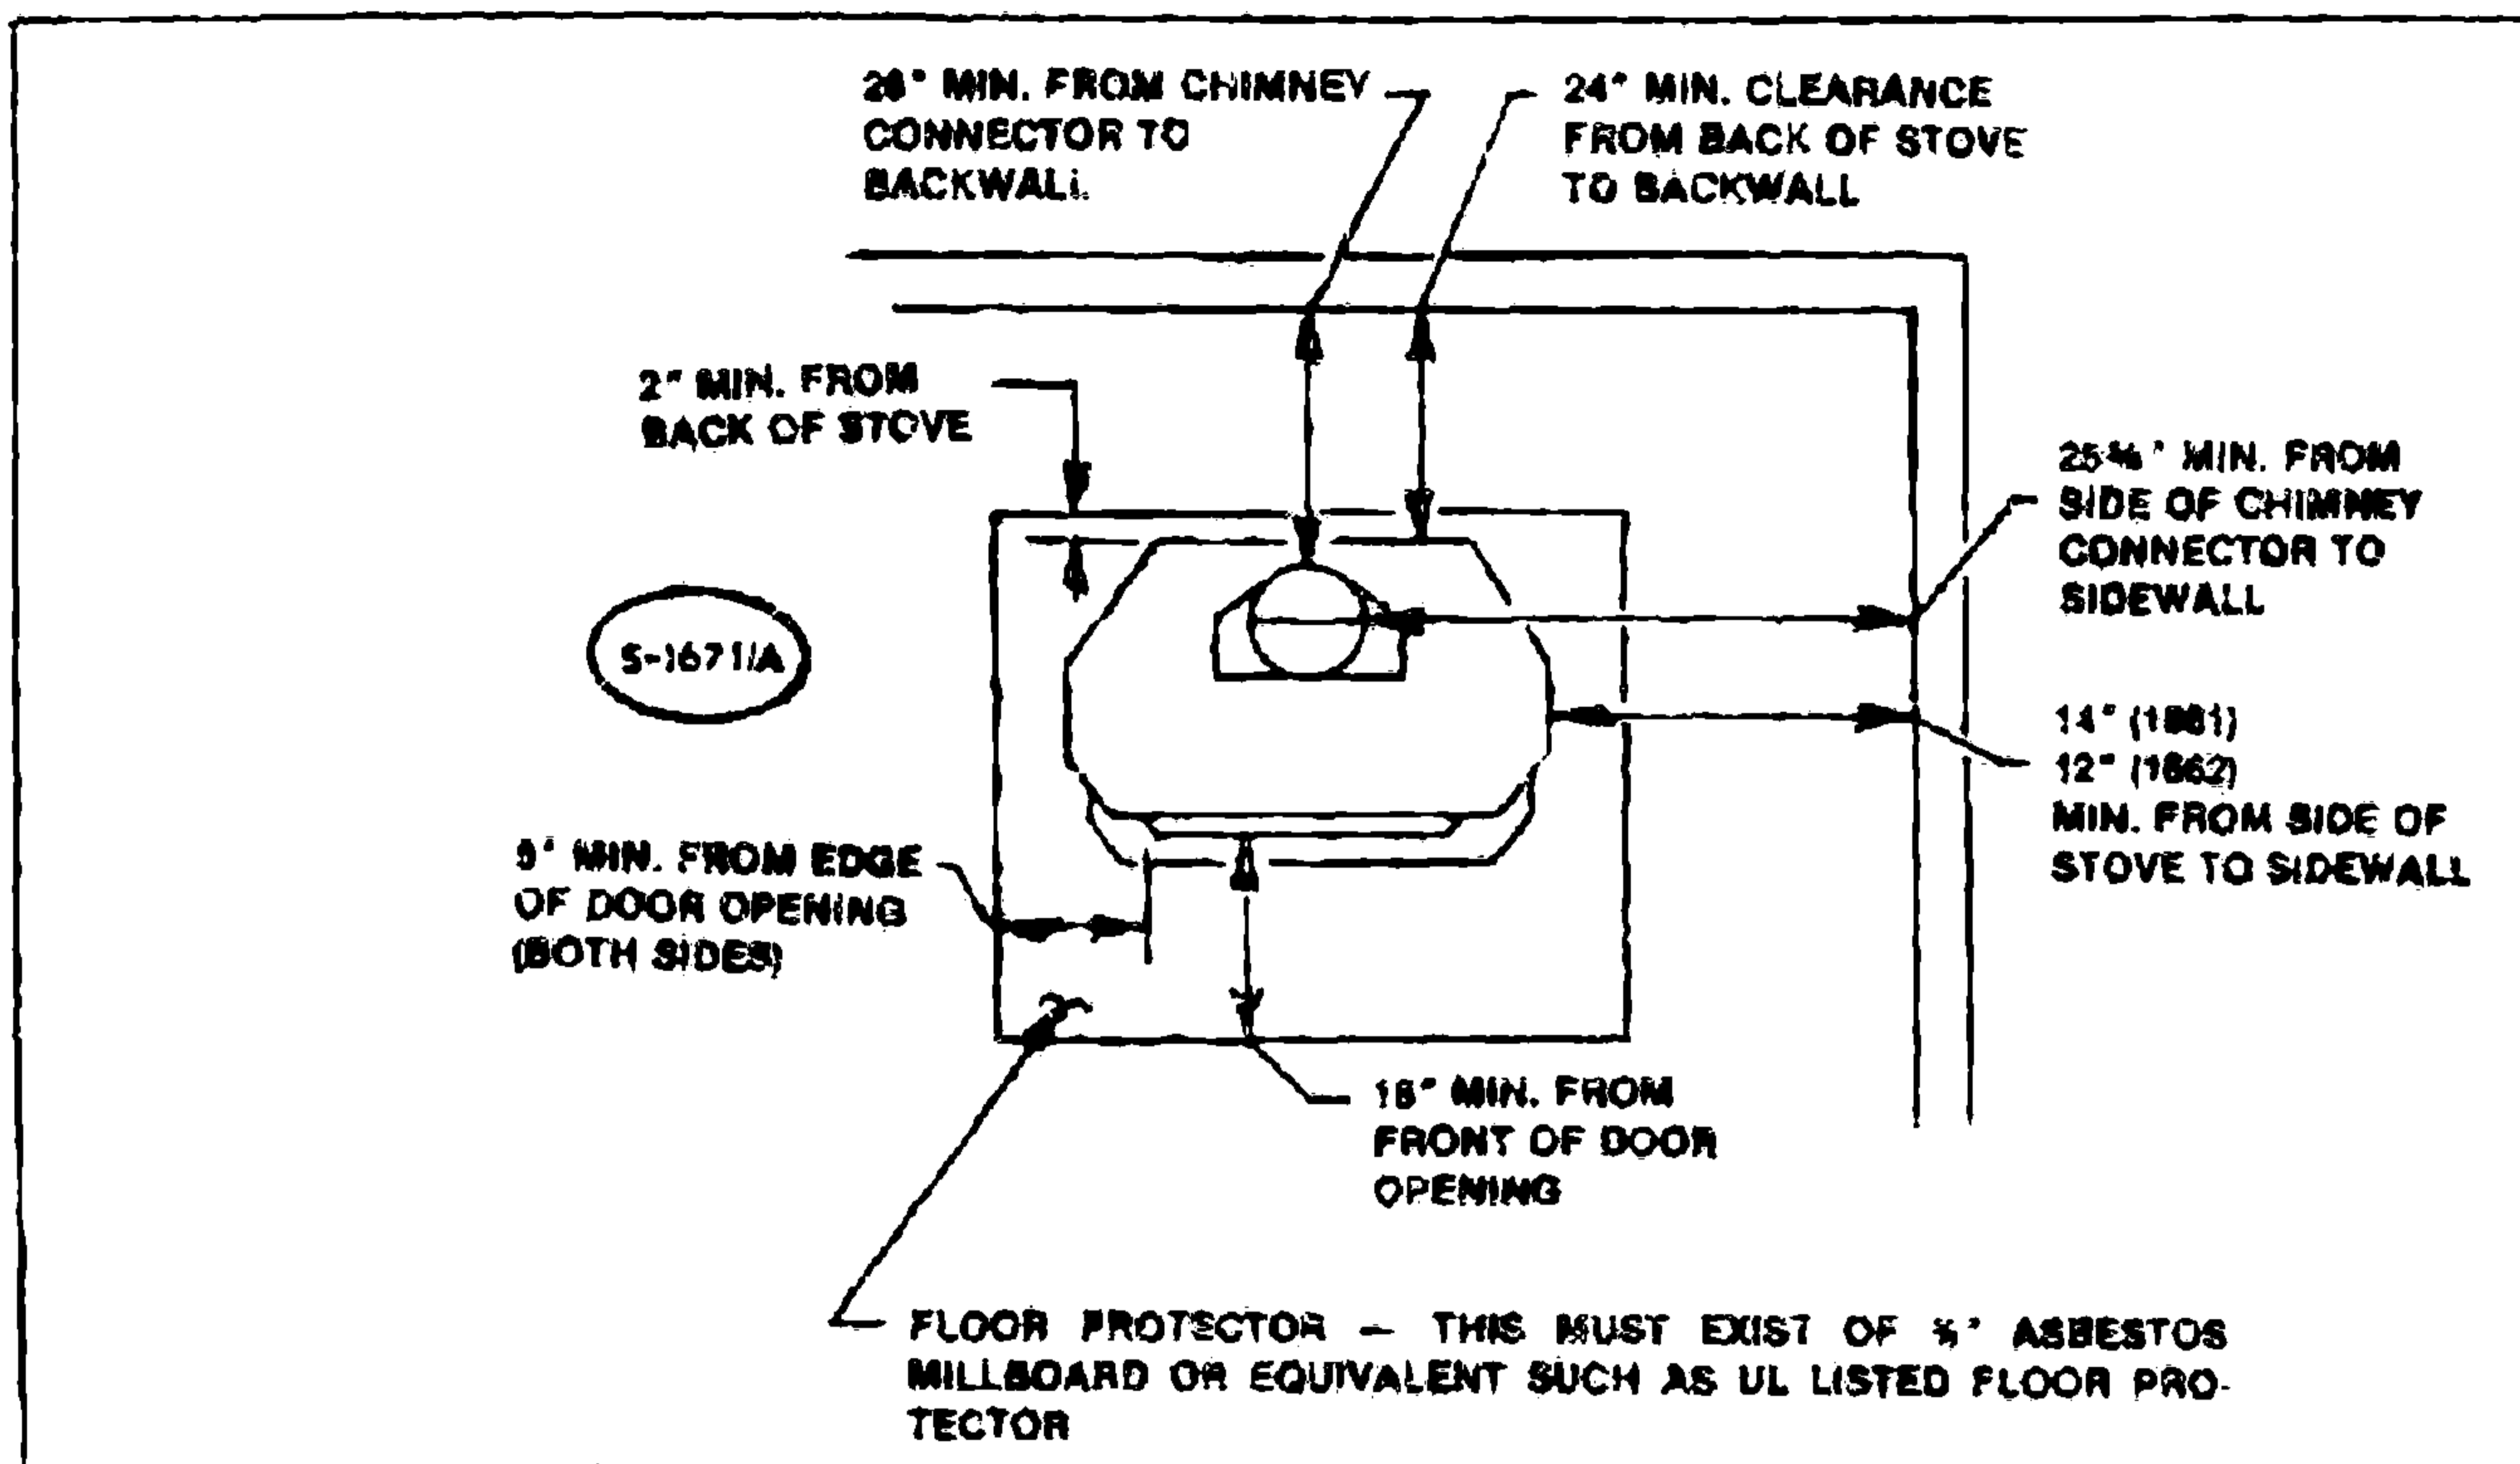

FIG. 11 — FREESTANDING STOVE CLEARANCES
6. The following clearances must be maintained from combustibles (See Figure 11):